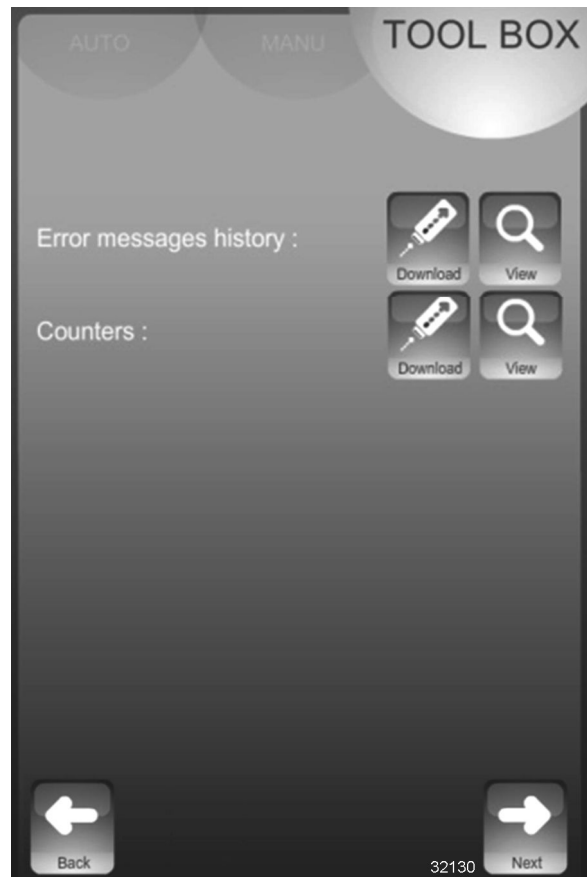

Fig. 107
1. Select Error message history **View** icon (Fig. 107) to view error history. Select **Download** icon to download an Excel-compatible spreadsheet to a USB drive.
2. Select Counters **View** icon (Fig. 107) to view operational counter information. Select **Download** icon to download an Excel-compatible spreadsheet to a USB drive.